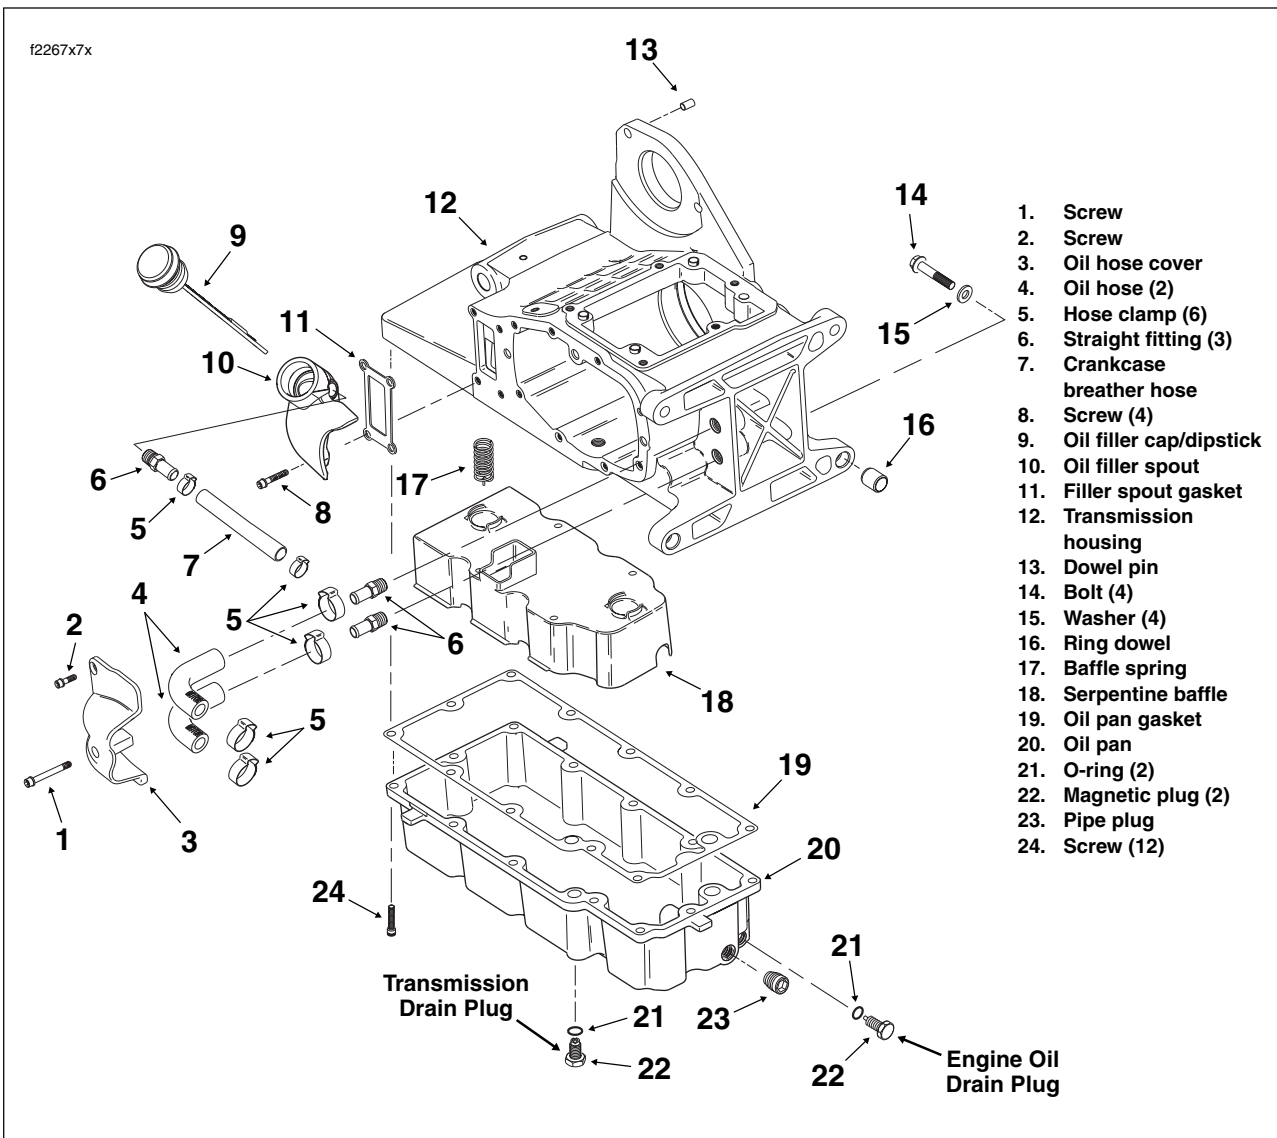

Figure 7-41. Transmission Case and Oil Pan
1. See Figure 7-41. Remove both the engine oil and transmission lubricant drain plugs from the oil pan. Drain the fluids into suitable containers.
6. Remove two allen head socket screws to release oil hose cover. See Figure 7-41.
3. Slide **new** clamps onto free ends of oil supply and return hoses. See Figure 7-41. Install hoses onto transmission fittings. Crimp clamps using the Hose Clamp Pliers (HD-41137).